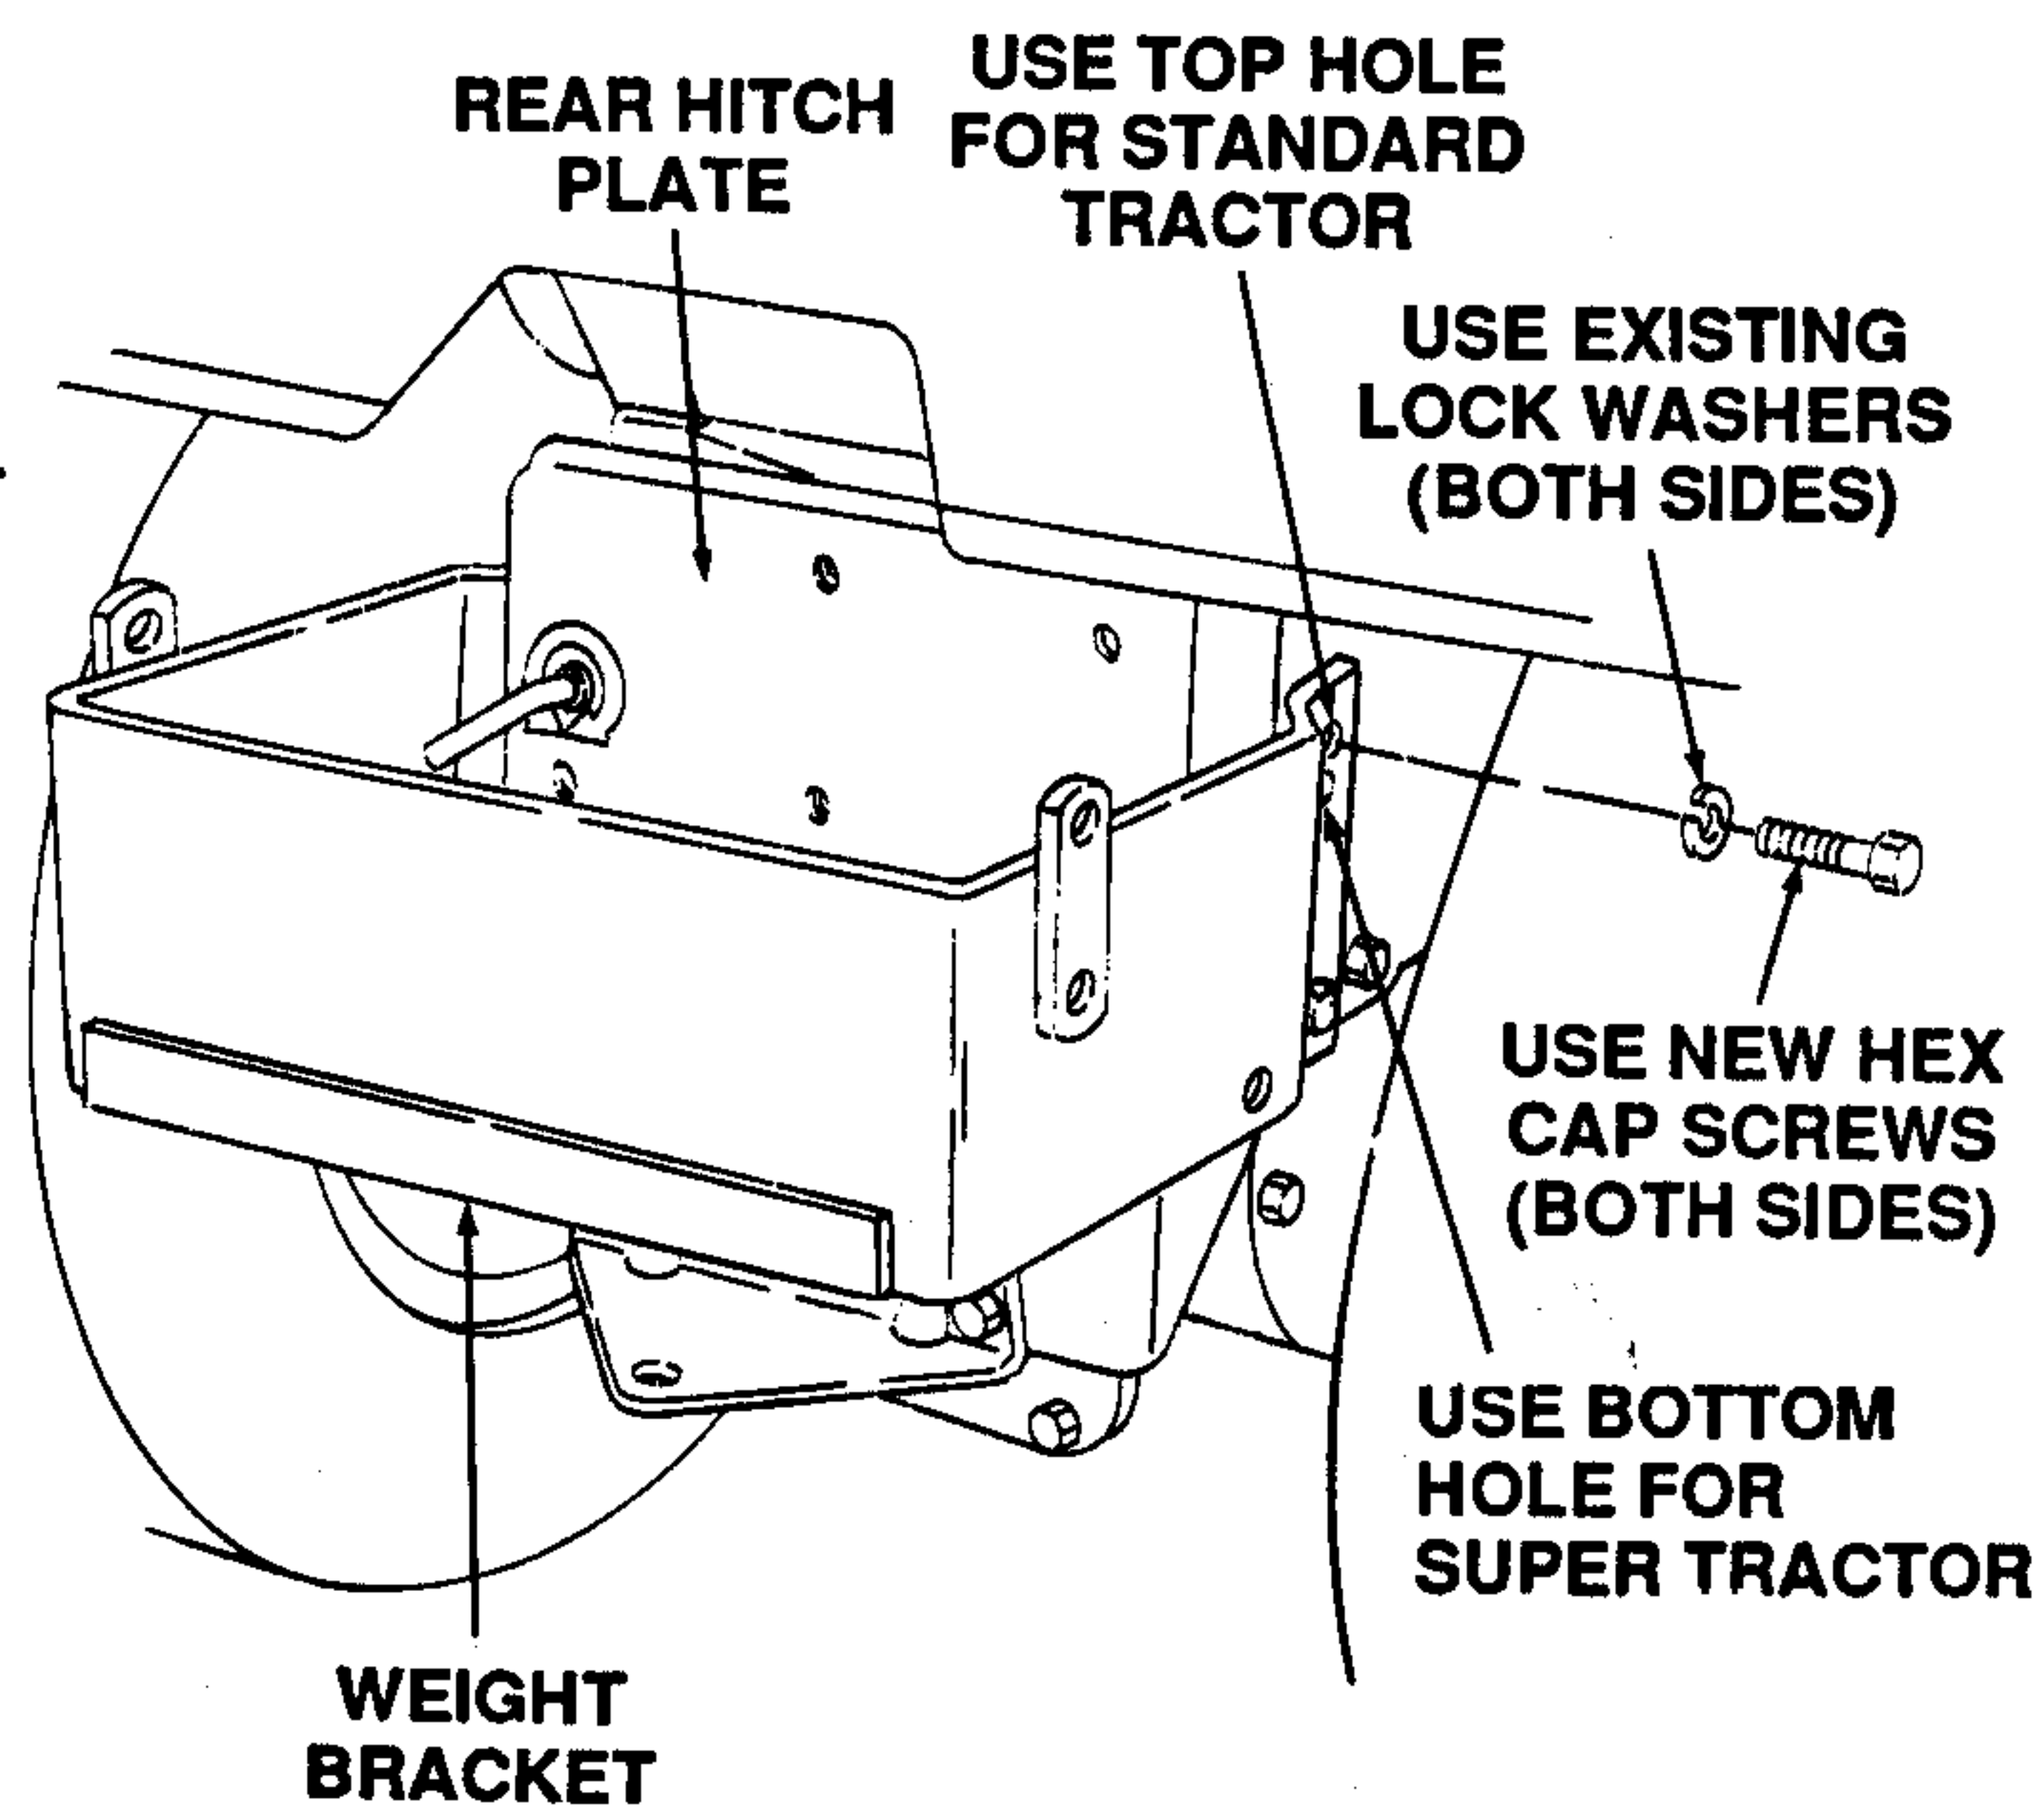

Figure 4
4. Refer to Figure 4 and remove upper hex cap screws and lock washers that mount rear hitch plate to frame. Save lock washers.
When assembling bracket to standard tractor use top hole for mounting. When assembling bracket to super tractor use second hole for mounting. See Figure 4.